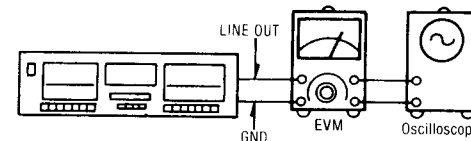

Fig. 2
- The serial number plate of this product is attached to the back chassis (shown in fig. 2).
1. Make connections as shown in fig. 2.
1. Test equipment connection is shown in fig. 2.